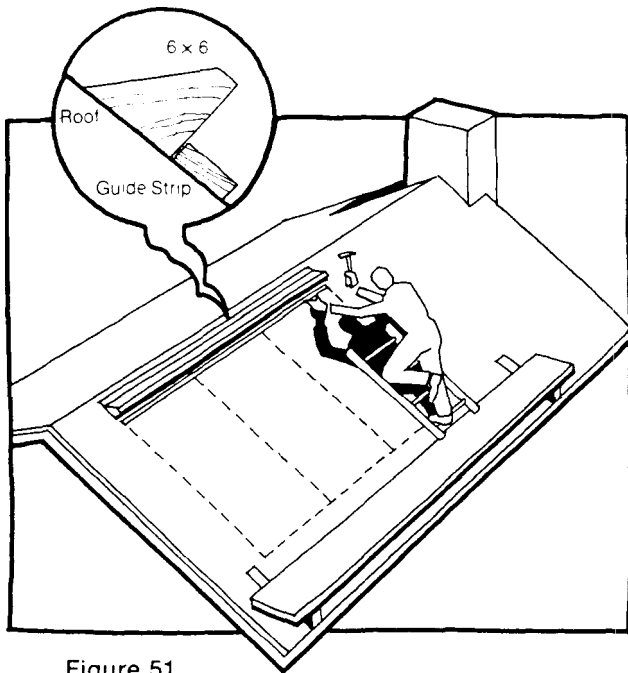

Figure 51
3. Build the box that will house the top collector header, using a beveled 6 x 6 as shown in Figure 51. Screw it, along with the guide strip, to the roof with rustproof screws, making sure that both the box and the strip are perfectly horizontal. The plywood top of the box should be left off until the panels and headers are in place.